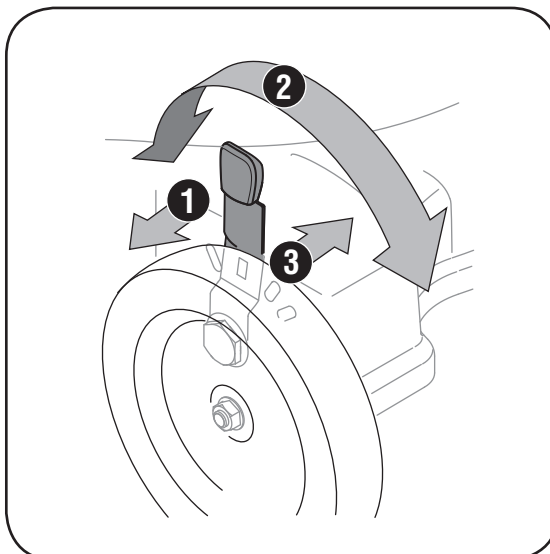

Figure 3-7: Use adjustment levers at each wheel to change the cutting height.
2. Move it to any one of the positions for desired cutting height, Figure 3-7. Make sure that each wheel is positioned at the same height.